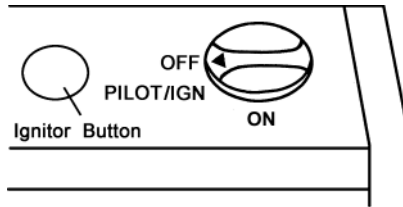

Figure 15-Control Knob In The OFF Position HR06MN
3. Push in gas control knob slightly and turn clockwise  to the OFF position (see Figures 15&16).
4. Wait five (5) minutes to clear out any air. Then smell for gas, including near the floor. If you smell gas, STOP! Follow "B" in the safety information on the side of the heater. If you do not smell gas, go to the next step.
5. Push in gas control knob slightly and turn counterclockwise  to "PILOT/IGN" and depress for five(5) seconds